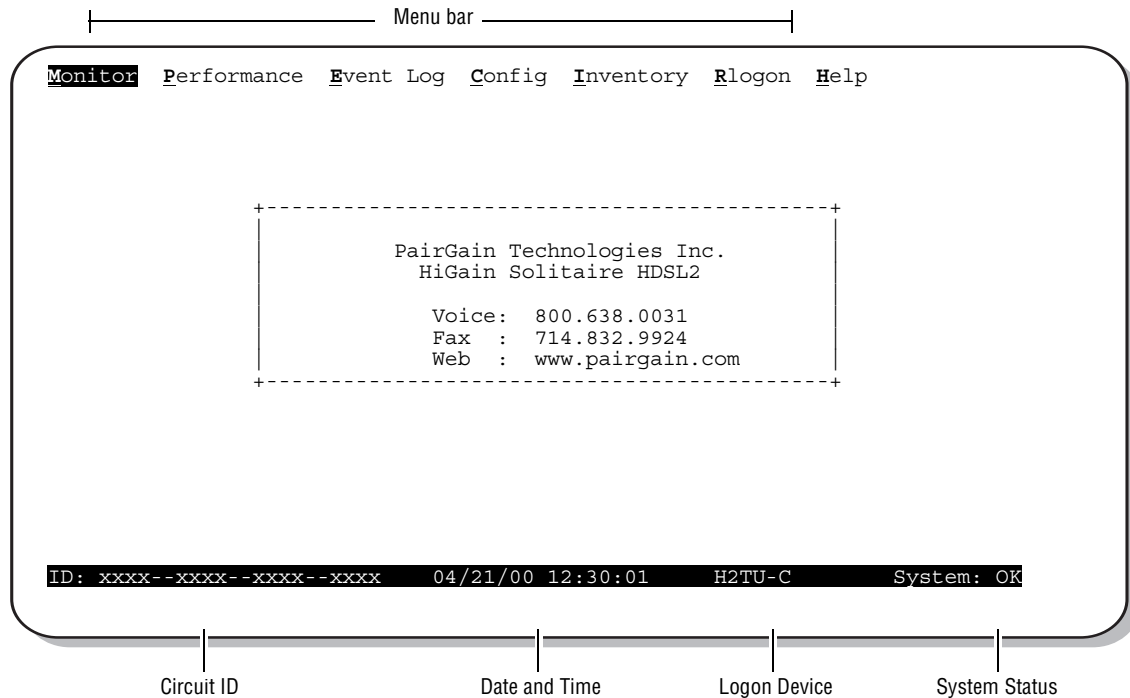

Figure 4. Logon Screen
- Use a maintenance terminal, such as an ASCII terminal or a PC running terminal emulation software, connected to the H2TU-C craft port or an HMU craft port to access the HiGain HDSL2 maintenance screens. Figure 4 on page 13 shows the maintenance screen. This provides full access to all H2TU-C status, history, inventory, and provisioning screens.
To select a menu from the HiGain HDSL2 logon screen, shown in Figure 4 on page 13, do one of the following: